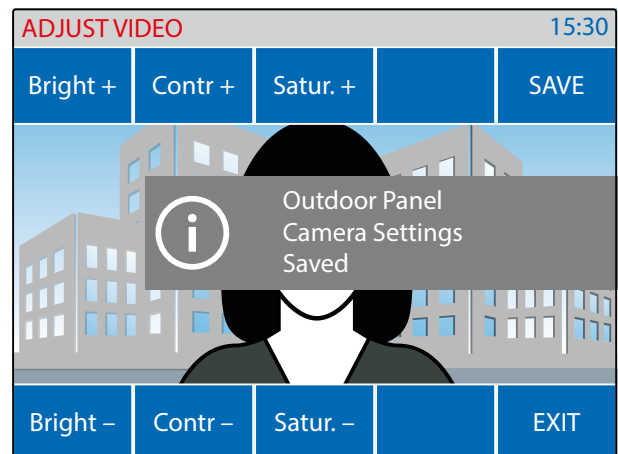

Fig. 22 Save the video adjustment
- A notice will inform that the adjustment is saved (Fig. 22).